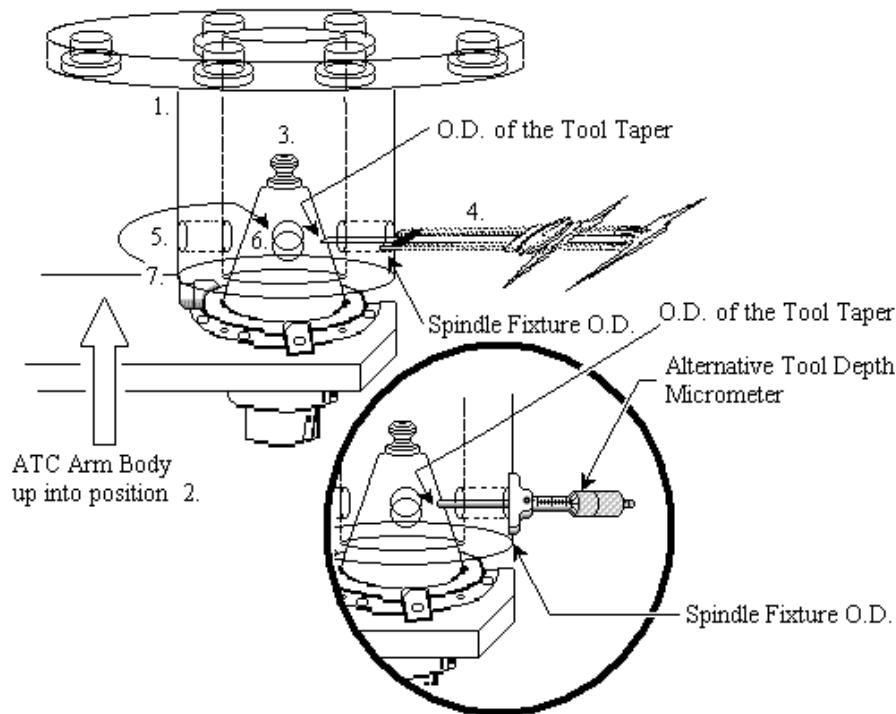

Figure 5-18 Manual Rotation of Tool Arm
- 3) Remove the oil inlet plug and fill the ATC oil reservoir with lubricant (MOBIL DTE OIL HEAVY MEDIUM) to approximately 1-1/2 gallons or 5 liters. Observe the sight glass to verify that the oil reservoir does not over fill (see Figure 5-18, positions 1 and 2). The alternative way to fill the oil reservoir is by utilizing the plugged air vent on top and to the rear of the main ATC casting. This does not require the removal of the main cover.
- 22) If required, install the shims in groups of twos, one along the top row of the ATC mount bolts and one underneath the bottom row of mount bolts. See Figure 5-18, positions 4,5, and 6.
- 28) Install four #5 tapered dowel-pins into the ATC arm mount at the column. See Figure 5-18, position 4.
30) While rotating the ATC arm, pull the motor brake switch up. This is the electromagnetic brake that will be holding the motor back from turning smoothly. The switch is located on top and to the front of the ATC motor (the switch must be held up). See Figure 5-18, position 3. When the motor has reached the lowest position, press the plunger and remove the tool holder.